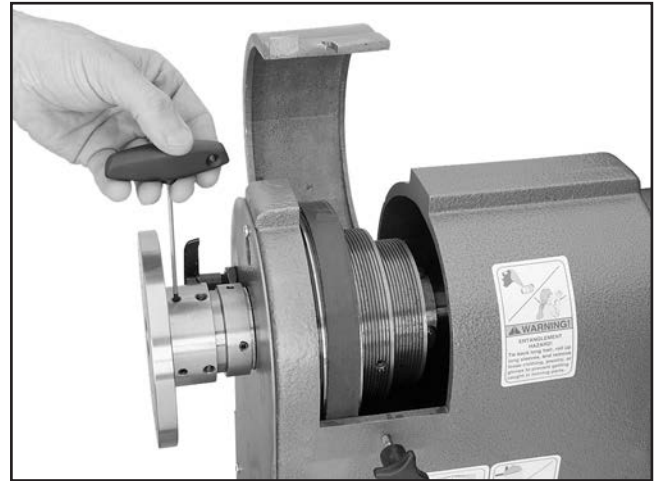

Figure 70. Securing handwheel.
29. Thread the handwheel onto the mounting hub, then tighten the outer set screws on the mounting hub (see **Figure 70**).